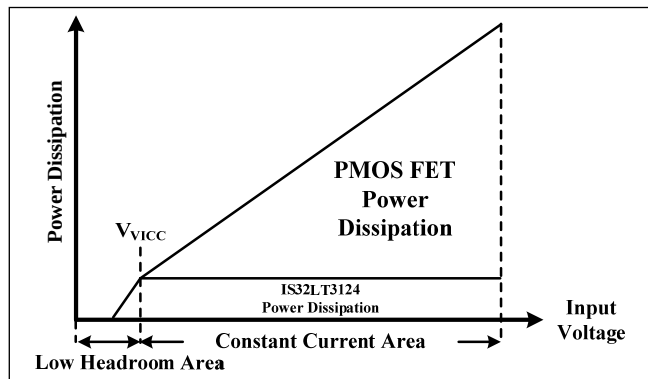

Figure 69 Power Dissipation Distribution in Series Regulator Mode
Choose $1\text{k}\Omega$ value for R_1 and the DHC circuit will operate in Series Regulator mode. The integrated circuit compares the minimum headroom voltage of all four output channels against the headroom setting V_{HRSET} , which is set by the resistor R_{HR} from the HRSET and VCC pins, and dynamically drives the external power PMOS FET to maintain this minimum headroom voltage always equal to V_{HRSET} . As Figure 69 shows, the minimum headroom voltage will appear on the channel with the maximum LED string forward voltage. Therefore, the output voltage of the Series Regulator, V_{VICC} , can be calculated by the Equation (6) and (7):